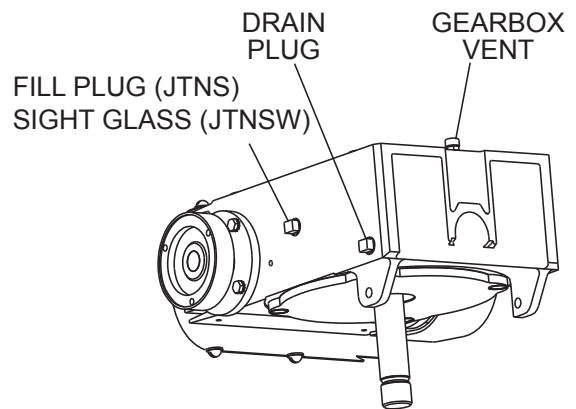

Figure 9. Gearbox Oil Plugs/Sight Glass
1. Check the gearbox oil level in both gearboxes by removing the fill plug and ensuring that the oil is at the correct level. See Figure 9.
2. Fill the gearbox just to the level of the fill plug (Figure 9) with Chevron Cetus® HiPerSYN 460 synthetic gear oil if necessary.